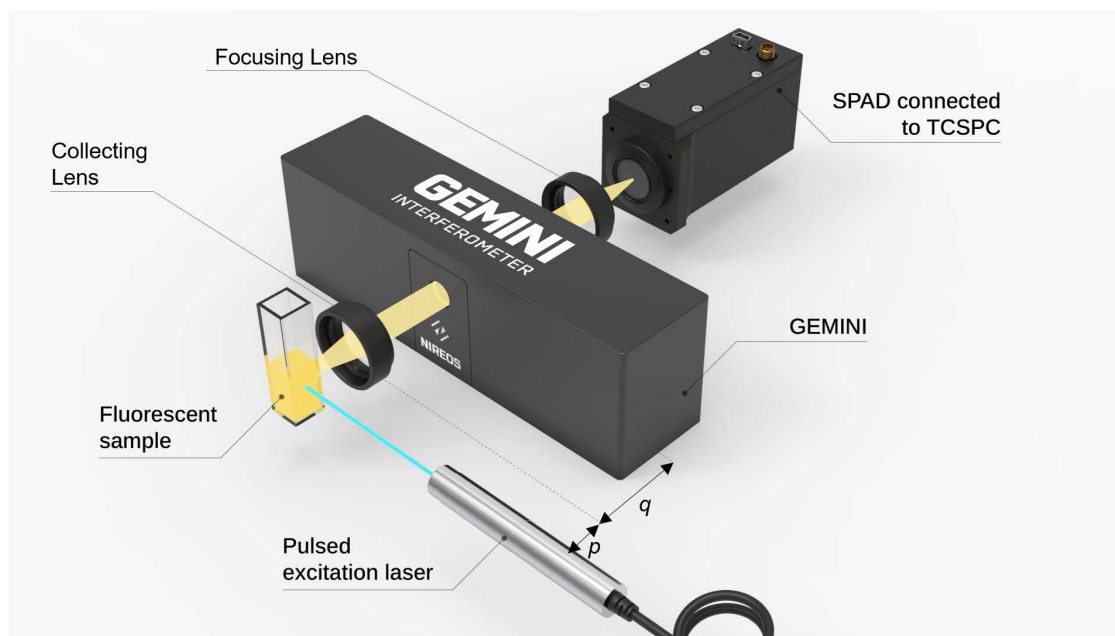

Figure 8: Experimental Setup showing how to use GEMINI in Fluorescence Experiments.
Figure 8 shows an example of experimental setup in which GEMINI Interferometer coupled with a single-pixel detector (such as a SPAD or PMT) is used to measure the fluorescence signal emitted by a fluorescent sample.
STEP 1: Align the excitation laser, so that the beam (represented in blue in Figure 8) excites the fluorescent sample. If needed, a lens (not present in Figure 8) can be used to focus the light into the sample.
STEP 2: Collect the fluorescent signal (represented with a yellow beam in Figure 8) with a collecting lens, with focal length f . Approximately, as a first alignment, place the collecting lens at a distance p greater than f from the sample ($p=f+\delta$), so that the image of the sample is formed at a distance q from the collecting lens, following the equation: $1/p+1/q=1/f$.